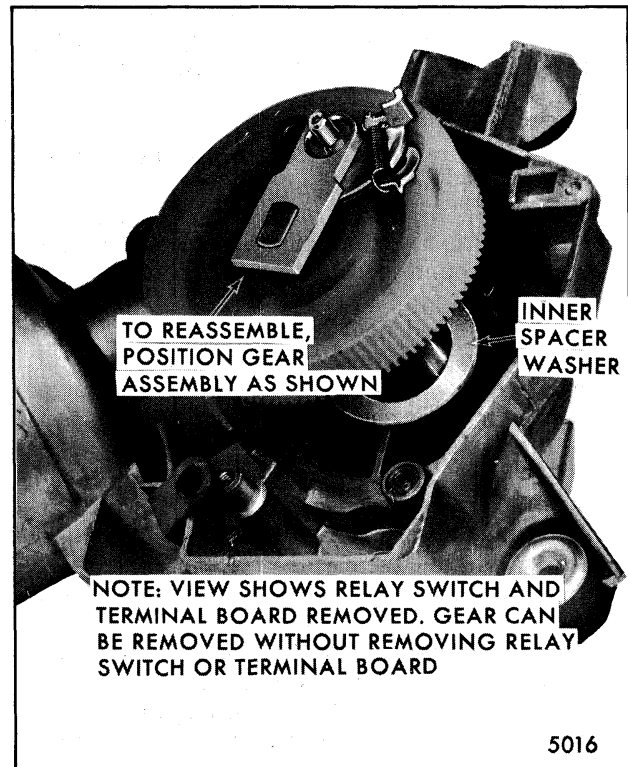

Fig. 2-43-Removing Gear
4. Slide gear assembly out of housing (Fig. 2-43).
6. Assemble inner spacer washer over gear shaft and assemble gear mechanism in housing so that it is positioned with respect to the housing in the approximate location shown in Figure 2-43.